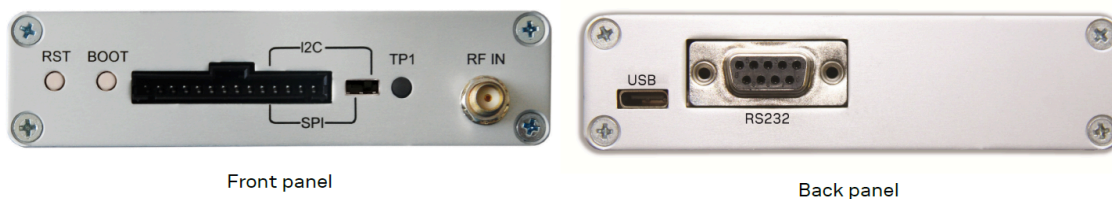

Figure 2: EVK-M91 front and back panels
- SPI / I2C: Connect corresponding pins. Set interface switch accordingly to SPI or I2C. Refer to Figure 2 to see these interface positions.
Figure 2 shows the front and the back panel of the EVK-M91 evaluation unit.
An SMA female connector is available on the front side (see Figure 2) of the evaluation unit for connecting an active or a passive antenna. The RF path on EVK-M91 contains an LNA and a SAW filter having 3.0 V DC voltage in the RF input. The recommended maximum antenna supply current for active antennas is 40 mA and is limited by the internal antenna short circuit detection feature. Please refer to [9] for more details. In addition to internal short circuit antenna detection feature, a hardware short circuit protection limits the maximum current to 100 mA. This pin is also ESD protected.